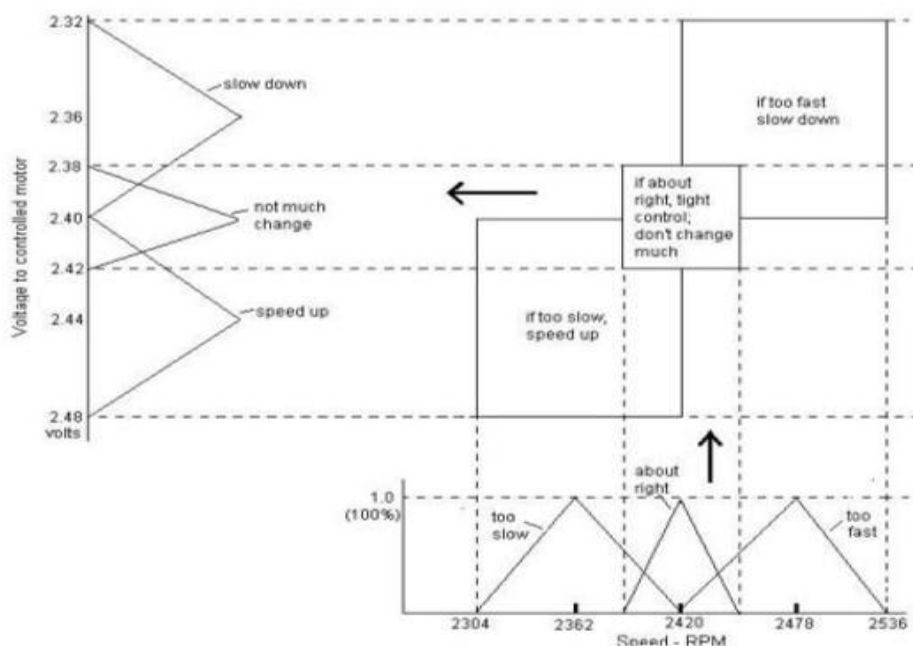

Figure 4. Membership Functions (I/P: Speed O/P: Voltage)
1. Define the rule-base for the scenario (Refer Figure 4)